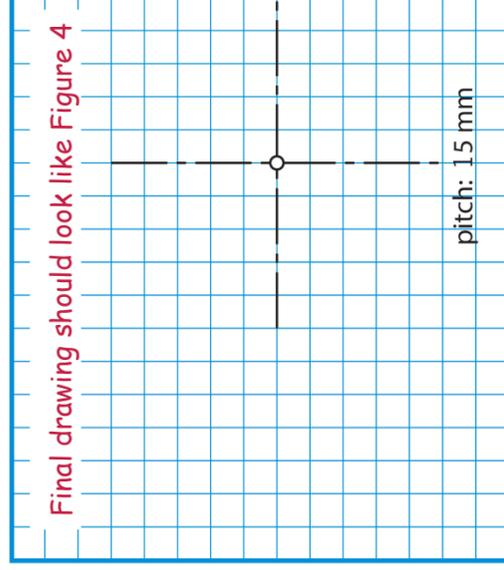

Figure 5
- When the teeth of two gears mesh, they touch one another somewhere in the middle between the outer and inner diameters. Figure 5 in Chapter 12 shows where two meshing gears touch. The **pitch diameter** is the diameter of the circle showing where the meshing gear teeth touch one another.